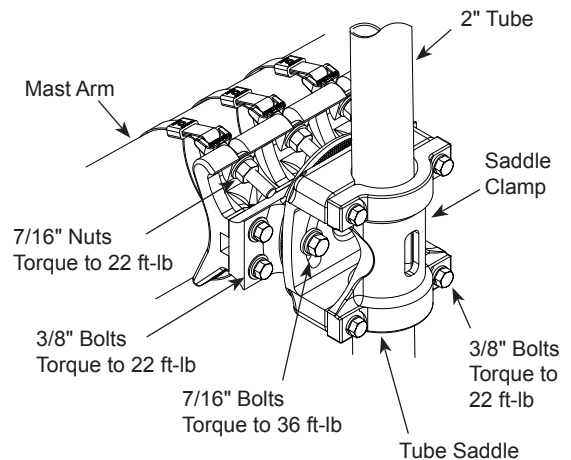

Figure 5
16. Place the support tube assembly in the saddle and place the saddle clamp in position. Install the (4) 3/8" washers, lock washers, and bolts and torque to 22 ft-lb. DO NOT OVERTIGHTEN. (Figure 5)
17. Install the saddle assembly (with its attachments installed) onto the female clamp and install the (2) lockwashers, washers, and 7/16" bolts.
18. Position the assembly as needed and tighten the (2) 7/16" bolt to 36 ft-lb of torque. DO NOT OVERTIGHTEN.